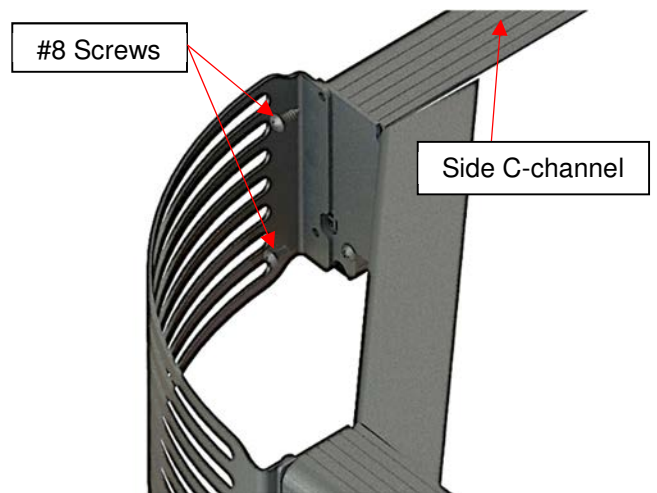
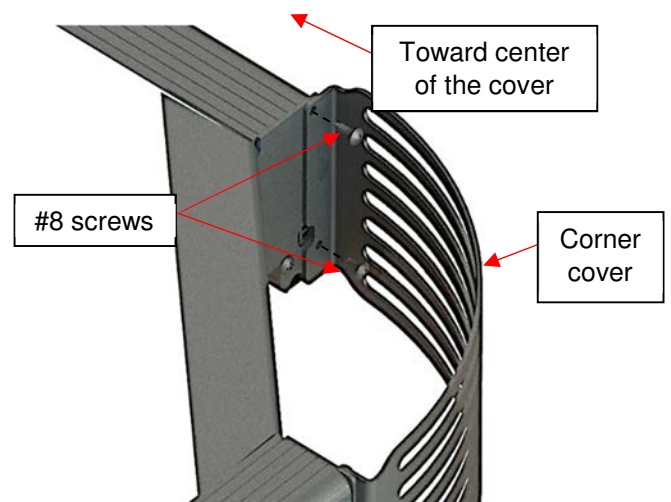

Figure 54
Figure 55
13) Install the right corner cover by screwing the four #8 x 3/4 in. screws (two screws on each side of the corner cover) to the C-channels. (Figure 54 and Figure 55)
14) Install the left corner cover on the other side of the cover. (Figure 54 and Figure 55)